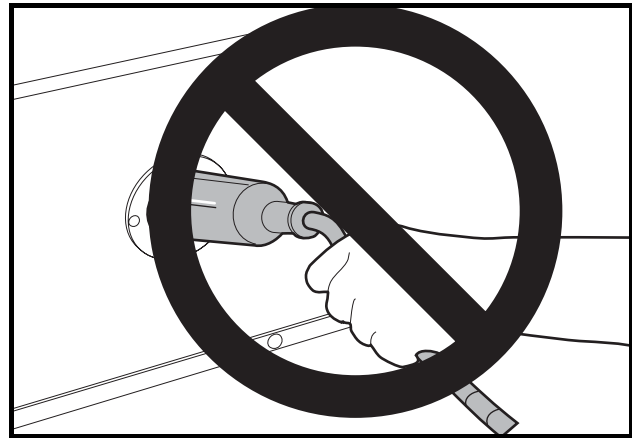

Figure 18 Incorrect Insertion of Charger DC Plug
- Do not pull on the DC cord (Figure 18, Page 38). Do not twist, rock or bend the plug. To disconnect the charger plug from the vehicle receptacle, grasp the plug by the handle and pull the plug straight out of the receptacle.